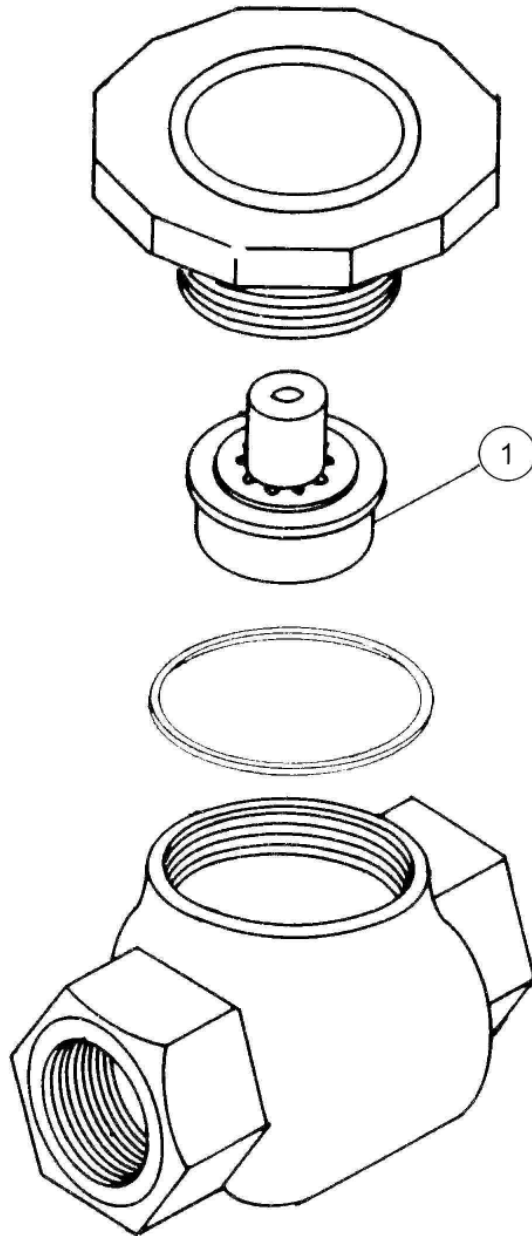

Figure 7.5.5
1. Remove screw (1) on top of solenoid coil housing.
7.5.5 OVERHAUL VACUUM BREAKER (See Figure 7.5.5)